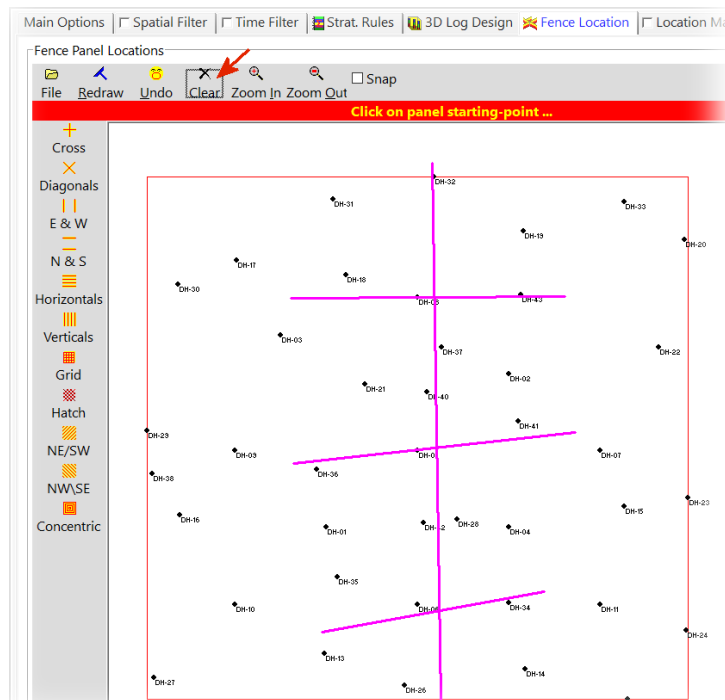

Figure 88
- The fence “panels” are defined by clicking on pairs of panel endpoints. Define these endpoints such that one long panel is oriented along the axis of the plume and three shorter panels are perpendicular to the plume axis (Figure 88). Note that there’s a *Clear* option at the top of the Fence Panel Locations dialog if you need to start over.